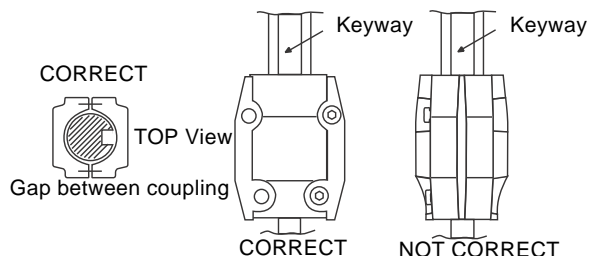

Fig. 16 Coupling adjustment all CR, CRI, CRN, CRT
3. Fit the coupling screws and leave loose. Check that the gaps on either side of the coupling are even and that the motor shaft keyway is centered in the coupling half as shown in fig. 16.
4. Fit the coupling screws and leave loose. Check that the gaps on either side of the coupling are even and that the motor shaft keyway is centered in the coupling half as shown in fig. 16.
Caution *To avoid damaging the coupling halves, ensure that the motor shaft keyway is centered in the coupling half as shown in fig. 16.*
4. Lubricate the coupling screws with an anti-seize, lubricating compound. Tighten the coupling screws (finger tight) while keeping the coupling separation equal on both sides and the motor shaft keyway centered in the coupling half as shown in fig. 16. When the screws are tight enough to keep the coupling in place, then cross-tighten the screws.